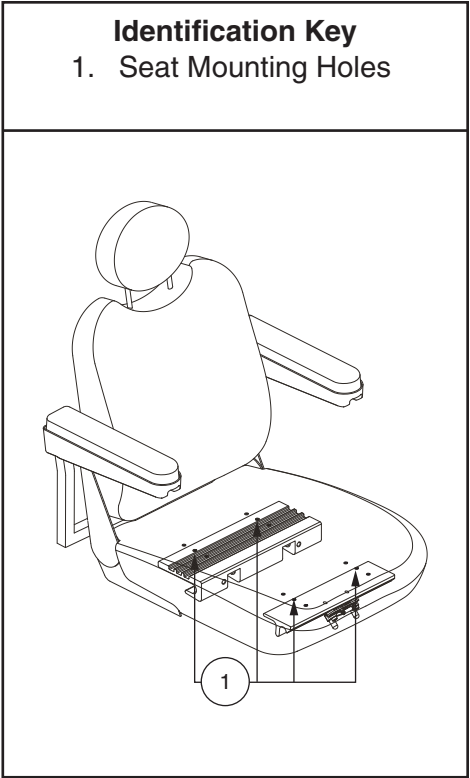

Figure 12. Seat Position Adjustment
6. Reposition the extrusions on a different set of mounting holes. You must move both extrusions the same number of holes either forward or backwards. **See figure 12.**